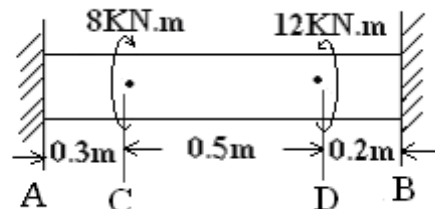

Figure 3
3. A shaft is loaded with two torques as shown in figure 3. Determine the maximum stress in the shaft by Rayleigh Ritz Method. [16]